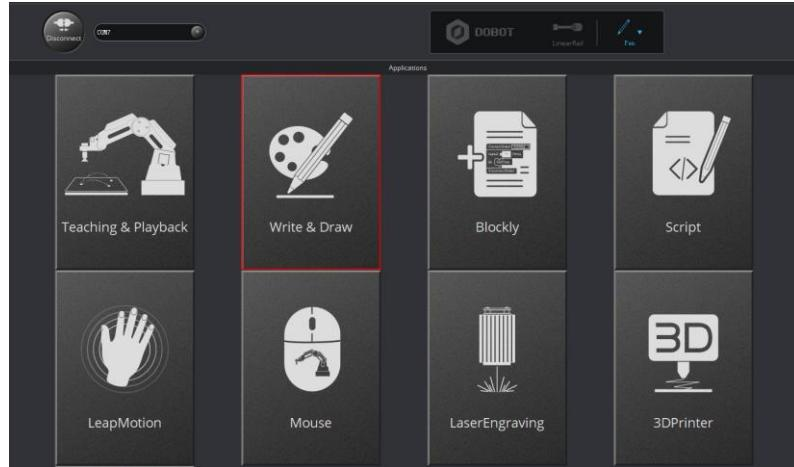

Figure 5.68 Click Write & Draw
**Step 1** Click **Write & Draw** on the **DobotStudio** page, as shown in Figure 5.68.